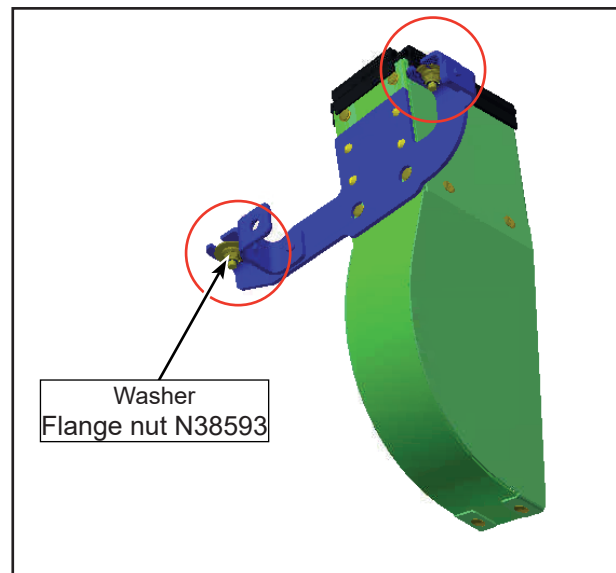

Figure 9 - Installation of Washer and Flange Nut
- 1.12. Mount the deflectors using the same washer to secure with a new flange nut N38593 (see figure 9).